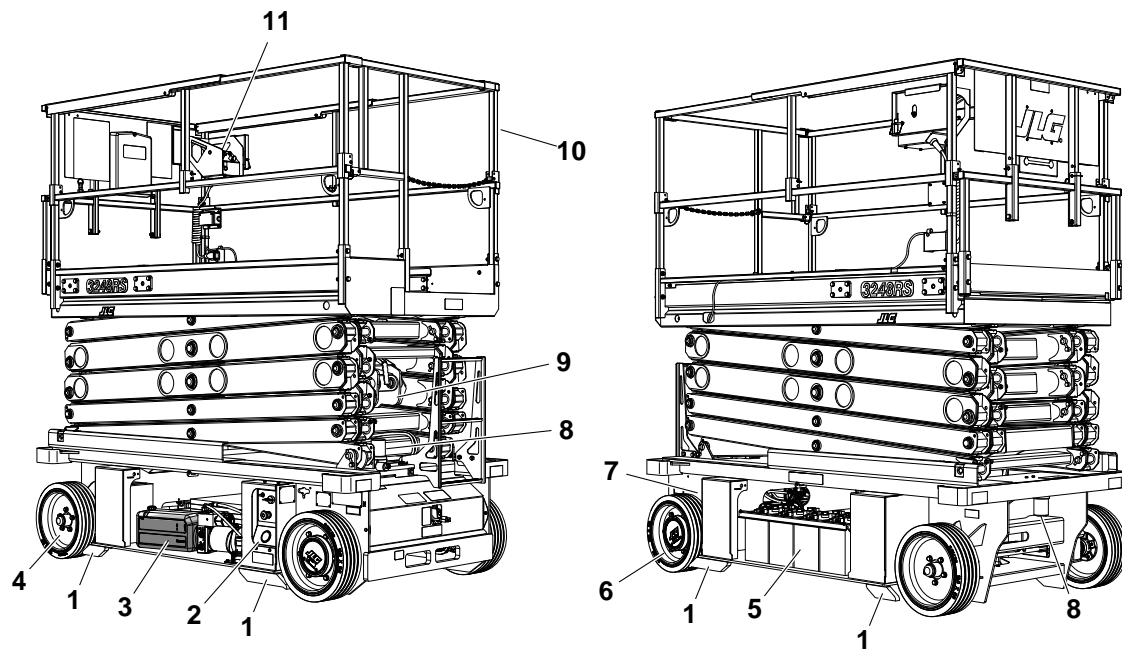

Figure 2-1. Daily Walk-Around Inspection (Side Covers Removed) - All Machines
5. **“Walk-Around” Inspection** – Refer to Figure 2-1. on page 2-7.
Begin the “Walk-Around Inspection” at item 1, see Figure 2-1. on page 2-7. Continue checking each item in sequence for the conditions listed in the following checklist.